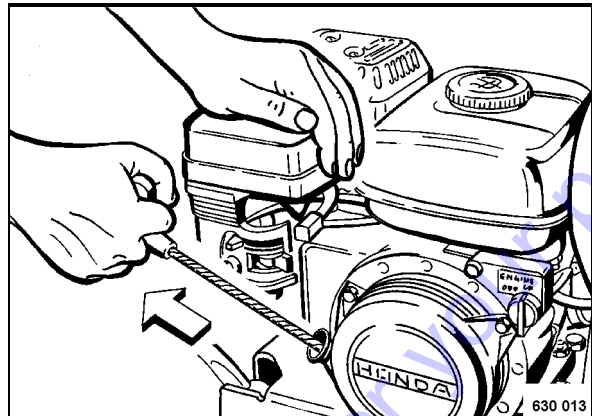

Fig. 10
- Slightly pull the starter handle (Fig. 10), until resistance can be felt (compression pressure), then pull with power, but do not pull the cord out completely.